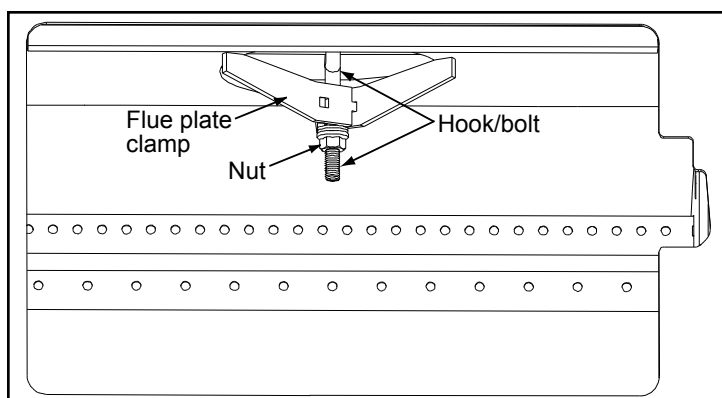

Figure 32: Attaching removable flue.
- a) Remove the first two (2) front secondary air tube and ceramic baffles, if installed (see CERAMIC BAFFLE INSTALLATION).
- b) Unscrew the nut on top of the inside of the firebox, using a $\frac{9}{16}$ " wrench or socket (see Figure 32). The flue plate clamp will slide off the hook/clamp.